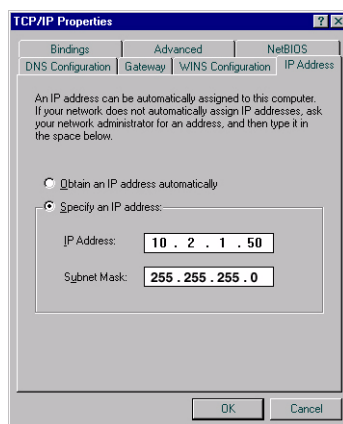

Figure 11. TCP/IP Properties dialog box
2. In the 'The following network components are installed.' window, highlight **TCP/IP** and then click the **Properties** button to display the TCP/IP Properties dialog box (Figure 11).
3. Click the **Use the following IP Address** radio button and enter an IP Address and Subnet mask for your laptop. You can use an IP address that is one digit off from the customer supplied IP Address you will assign to the console's TCP/IP Interface Module. For example, if the IP Address for the TCP/IP module is 10.2.1.51, you would enter 10.2.1.50 for the laptop's IP Address. You also need to enter a Subnet mask. Use the same Subnet mask that is shown in Figure 11 above (255.255.255.0).
Note: Prior to reconnecting your laptop to a network, you will need to select the **Obtain an IP address automatically** radio button as shown in Figure 11 above.